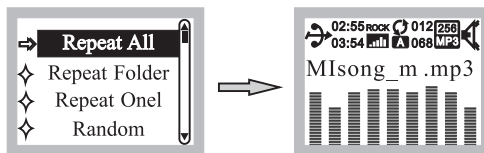

Fig. 10
- (F) Repeat Mode: Turn right or left Parameter knob to select parameters, Fig. 10.
- (1) Repeat All.
- (2) Repeat Folder.
- (3) Repeat Single Track.
- (4) Random.